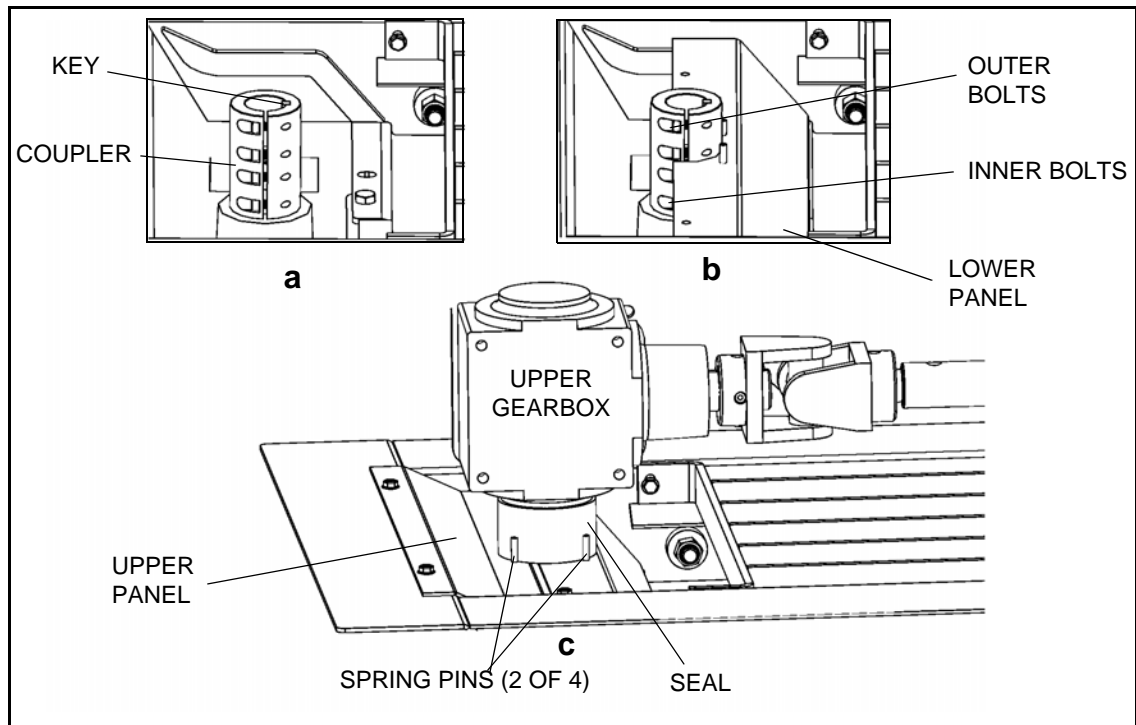

Figure 4.21
3. Slip the coupler over the lower gearbox shaft and align the coupler keyway with the shaft keyway. Once aligned, insert a key to secure the attachment (see a, Figure 4.21).
4. Insert two spring pins halfway into the holes of the lower panel and install the panel into the center hopper (see b, Figure 4.21).
5. Slip the seal in between the upper part of the coupler and two spring pins. Using the square key as guide, slide top gearbox shaft into the driveshaft coupler (see c, Figure 4.21). Make sure to **fully** engage both gearboxes into the coupler.